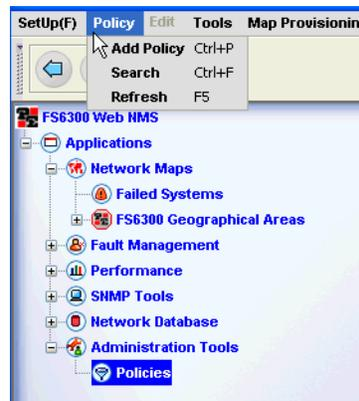

Figure 104. Policy Menu
2. Select **Policy > Add Policy** from the toolbar at the top of the screen (Figure 104 on page 135).